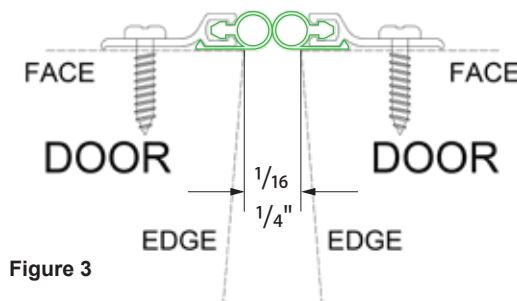

Figure 3
3. Adjust seal compression as desired, making sure that the doors can be opened and closed properly, then fasten screws. (See figure 3)